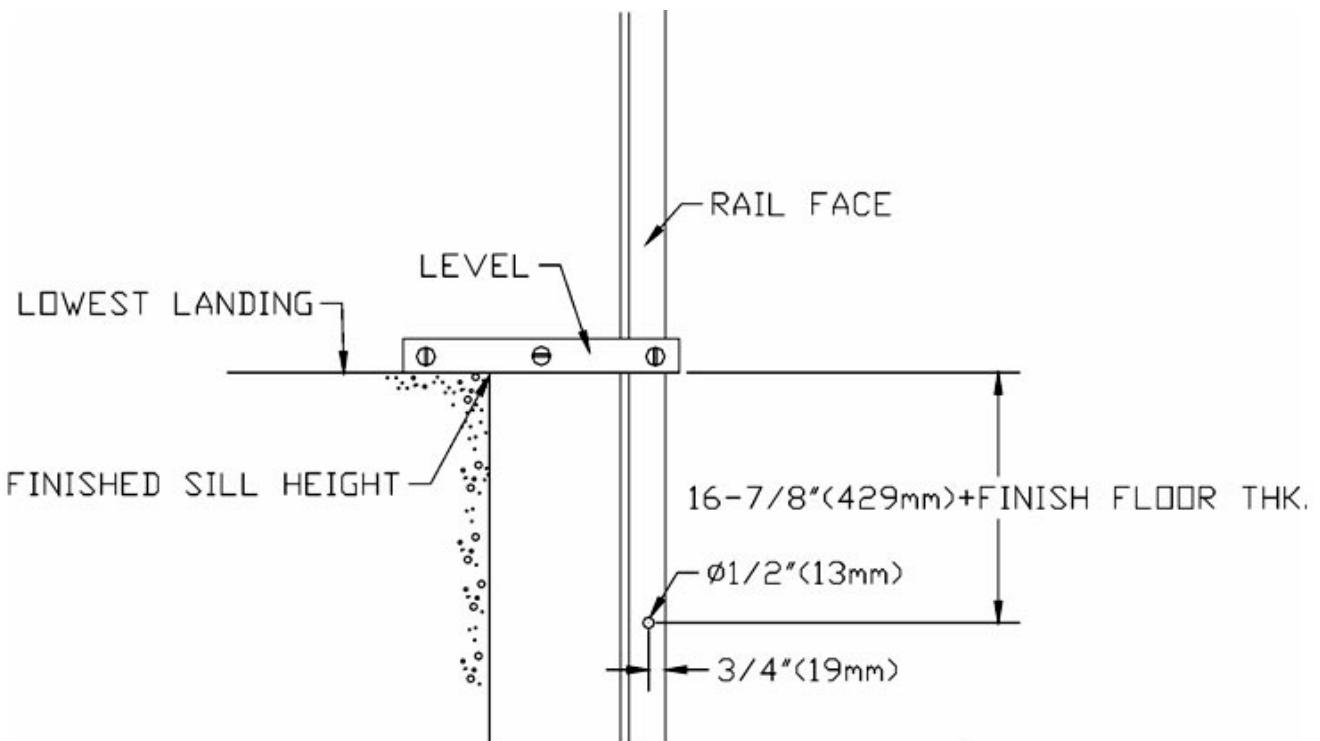

Figure 47 Rail Buffer Mounted Detail
- 3) From the mark, measure the total distance calculated in step 1, and drill $\frac{1}{2}$ " (13 mm) hole (Figure 47) on the “milled” rail face.